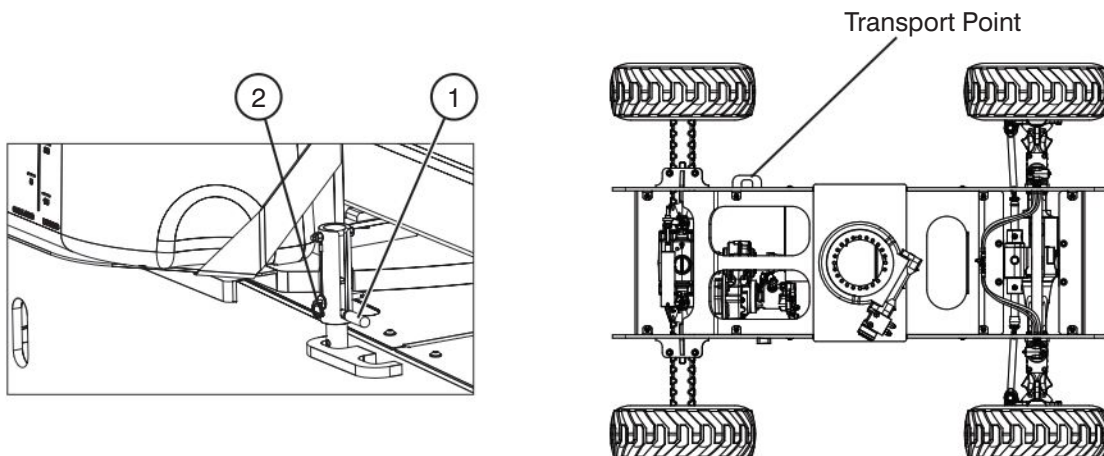

Figure 3-3. Turret Transportation Lock & Locking Points
1. Ensure that turret is positioned so that turret transportation lock tube (item 1 - Figure 3-3) is aligned into one of two turret locking points in the turret rotation lock plate.
2. Pull out turret lock retaining pin (item 2 - Figure 3-3). Lower turret lock into locked position and reinsert turret lock retaining pin.
1. Place boom in stowed position centered between drive wheels. Lock turret using turret transportation locking pin (refer to Section 3.10-2) into the transport point (refer to Figure 3-3).